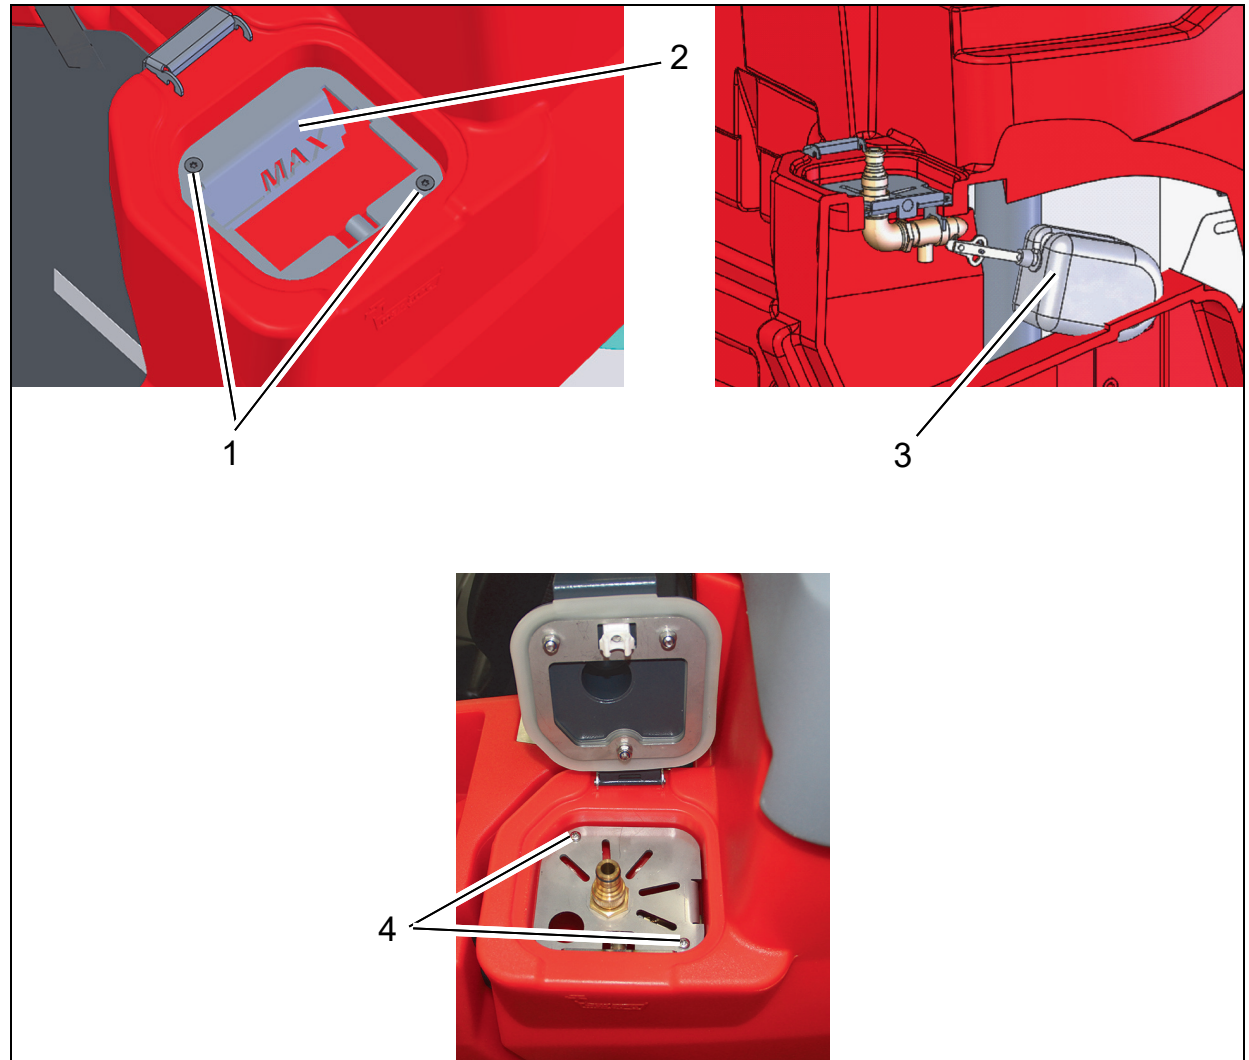

Fig. 2
1. Undo both bolts (Fig. 2/1) at the existing insert (Fig. 2/2). Remove the insert.
2. Insert the filling unit into the tank through the filling opening as shown in the sectional view (Fig. 2/3).
3. Attach the plate using the existing bolts (Fig. 2/4).